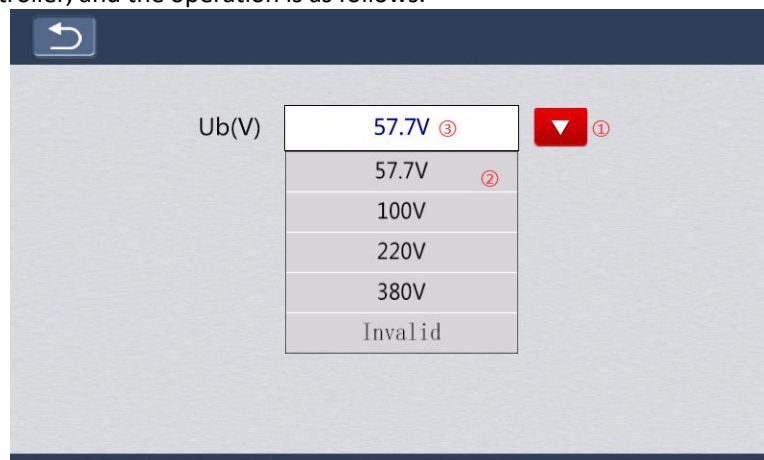

Figure 2-25 The drop-down menu shows the effect
Suppose that the user needs to realize the following functions: click the pull-down button ① as shown in Figure 2-25, and a pull-down menu ② pops up. The user selects